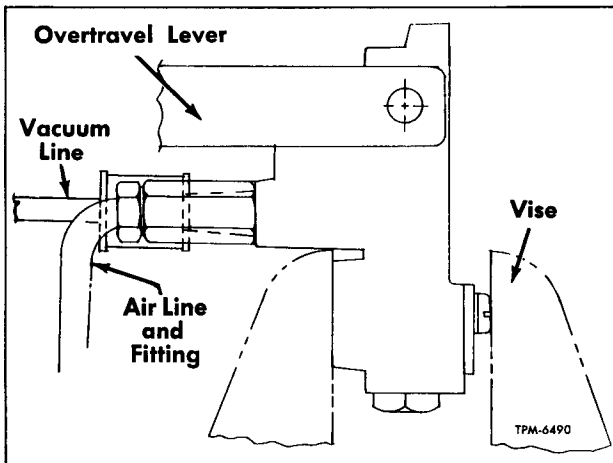

Figure 11—Valve Positioned for Time Delay Check
4. Place valve assembly vertically in holding vise (fig. 11).